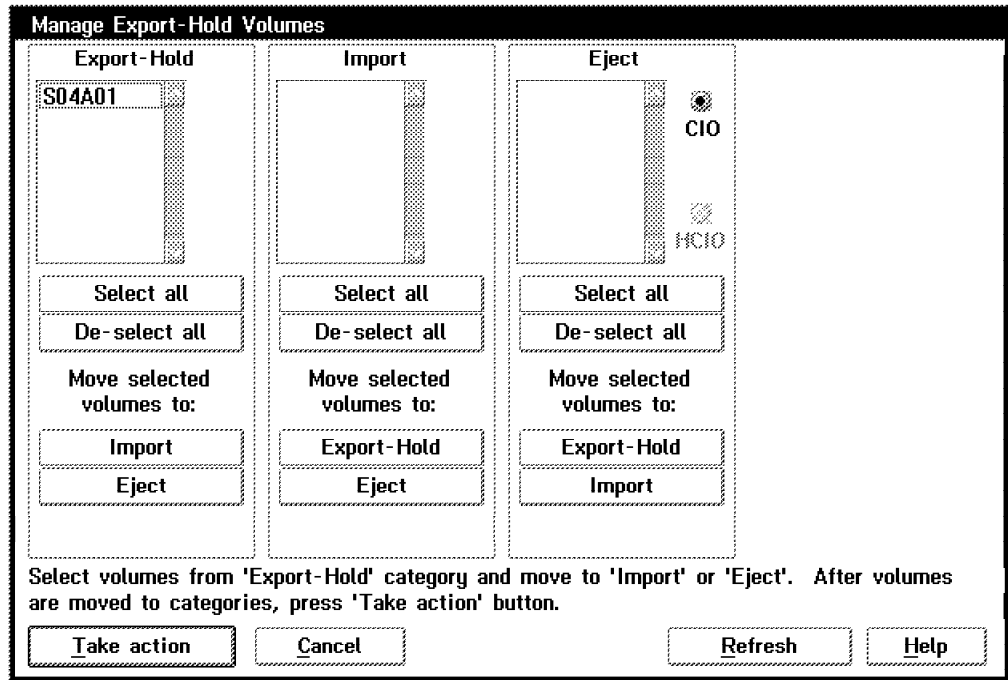

Figure 104. Manage Export Hold Volumes
- A Library Manager dialog box, **Manage Export-Hold Volumes** (Figure 104 on page 263), allows an operator to move Exported Stacked Volumes from the Export-Hold category to the Eject category. Exported Stacked Volumes in the Eject category are moved to the Convenience I/O station by the Library Manager. If an Exported Stacked Volume is needed for an Import Operation, it may be moved to the Import category.
The exported stacked volumes are held in the library in the export hold category until an operator releases them. You can eject one exported stacked volume at a time, wait until export for the destination has completed, or eject all of them when the export operation has completed. Use Library Manager panels to eject the exported stacked volumes (Figure 104).